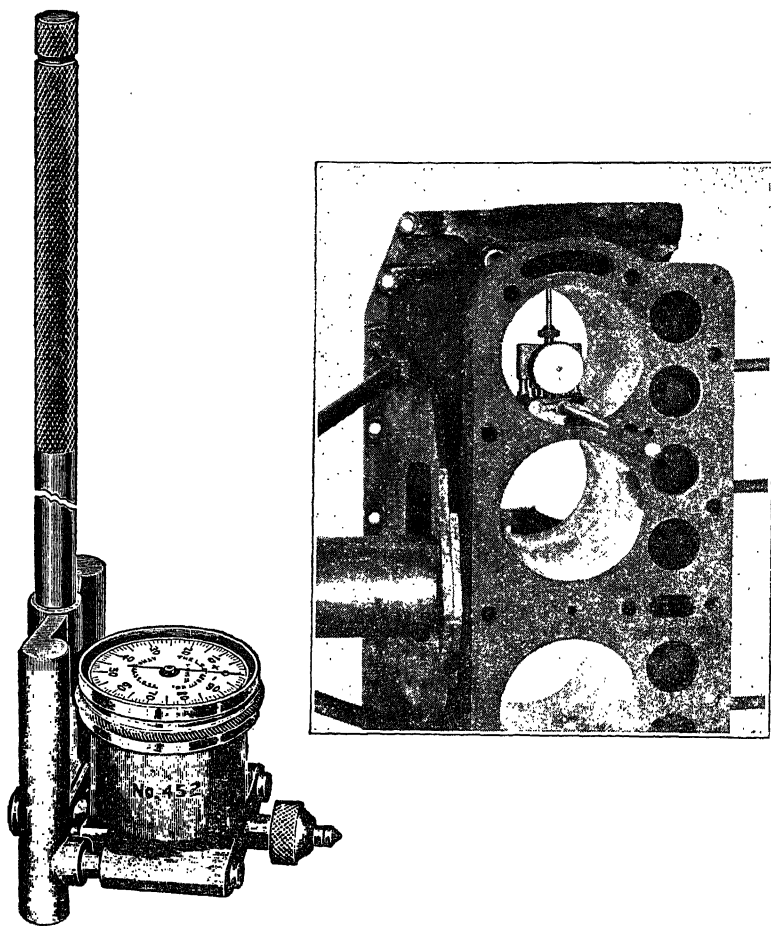

Fig. 20. Using a Cylinder Gauge to Test Cylinder Condition—Starrett Gauge at Left
*Testing the Condition of a Cylinder with the Cylinder Gauge.* Insert the cylinder gauge as shown, Fig. 20, and set the dial to read zero. Now move the gauge downward into the cylinder. Any variation means that there is a taper and it is likely that the cylinder will be smaller at the bottom. The number of graduations on the gauge is the amount of variation and it may be read as .003- or .003+ as the case may be.